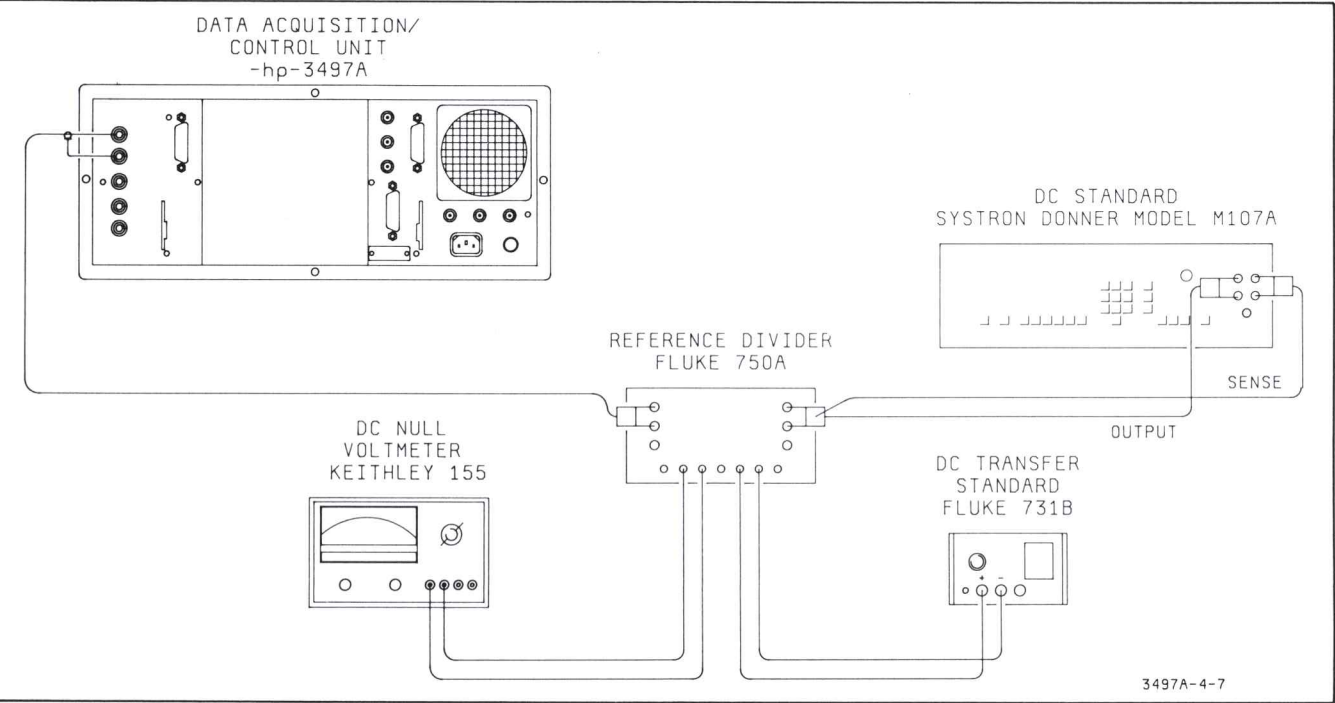

Figure 4-7. DC Voltmeter Test Connection
l. (Step #11). Refer to Figure 4-7. Using short pieces of 20 AWG insulated solid copper wire, connect the DC Transfer Standard and Null Voltmeter to the Reference Divider, as shown in the figure. Turn the output of the DC Volts Standard off. Using 24 inch or shorter shielded cables, connect the DC Standard and 3497A to the Reference Divider, as shown in the figure.